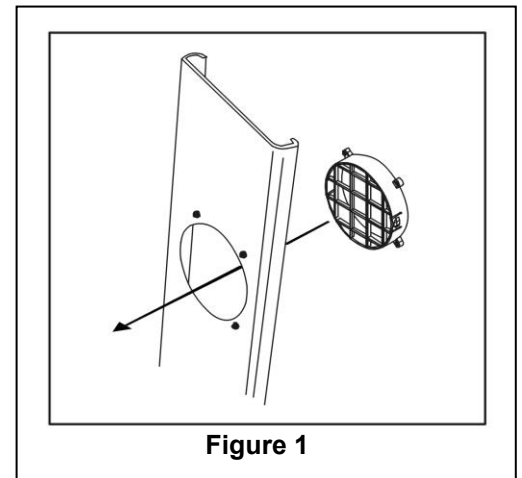

Figure 1
3. Insert the fixture through the back grooved side of the window slider hose cut-out. Line up the fixture with the 4 screw holes and tighten the fixture with 4 screws from the front side of the slider panel. (Fig. 1)